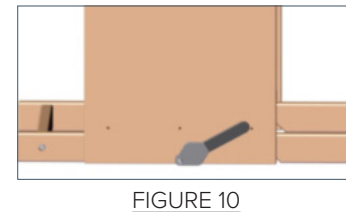

FIGURE 10
- Test the function of the sliding mechanism by unlocking the Lever-Lock on each side of the Upholstered Barrel. Figures 10 and 11 show the Lever-Lock in two possible unlocked positions. After placing the two Lever-Locks are in an unlocked position, push the Upholstered Barrel Assembly back and forth along the rails. The Upholstered Barrel Assembly should slide smoothly with minimal resistance.